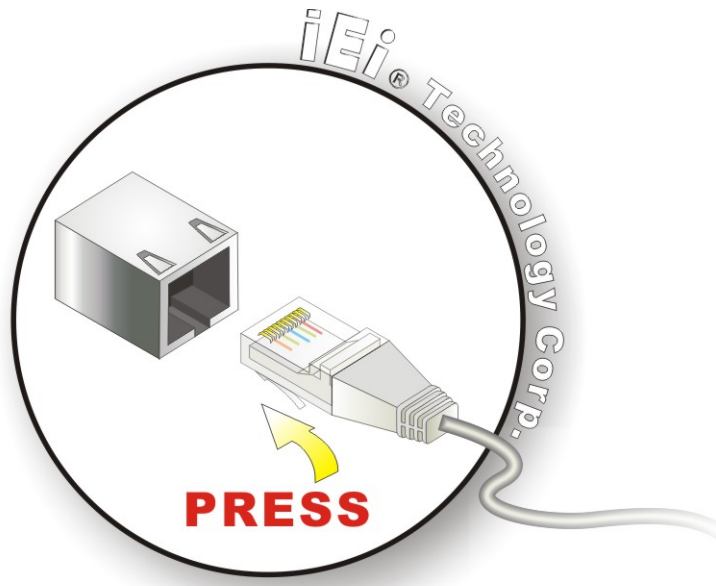

Figure 5-16: RJ-45 Ethernet Connector
Step 2: Insert an RJ-45 plug. Insert the RJ-45 plug of a LAN into the RJ-45 receptacle on the external peripheral interface. See **Figure 5-16**.